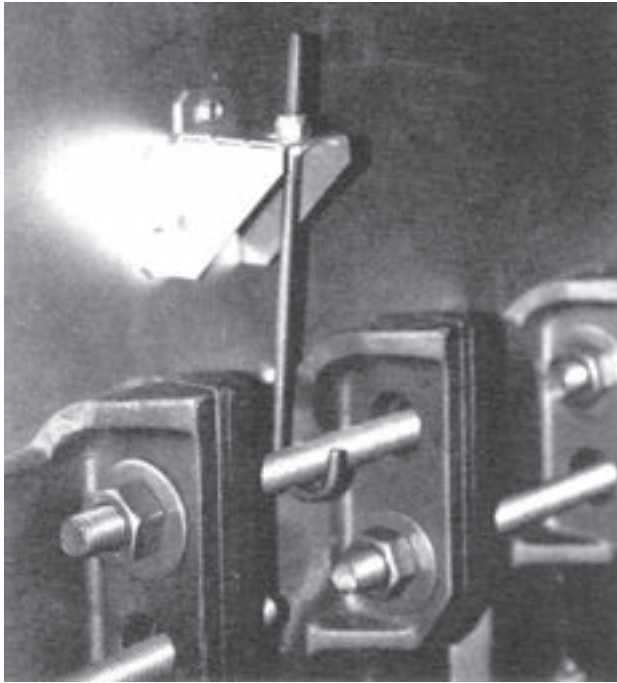

Figure 17: Left Side Canopy Intermediate Bracket
2. Attach the two (2) canopy brackets to the front end cap of canopy with four (4) #10 x 1/2" sheet metal screws each.
10. Attach either the rear flue outlet damper assembly or rear outlet canopy cover to the canopy with the 5/16" flat washers, lock-washers and brass nuts and tighten securely. Attach the rear flue outlet damper assembly or cover to the back section with the four (4) 5/16" flat washers and cap screws and tighten securely.
12. On the longer canopy sizes, Intermediate Mounting Brackets are provided, two (2) are required on sizes 24-07 thru 24-09 and four (4) are required on sizes 24-10 thru 24-12. Refer to Figures 17 and 18.
- b. Secure brackets to both sides of canopy with three (3) #10 x 1/2" sheet metal screws per bracket.
face outward). Secure canopy with 5/16" flat washers, lock washers and brass nuts. See Figure 17.